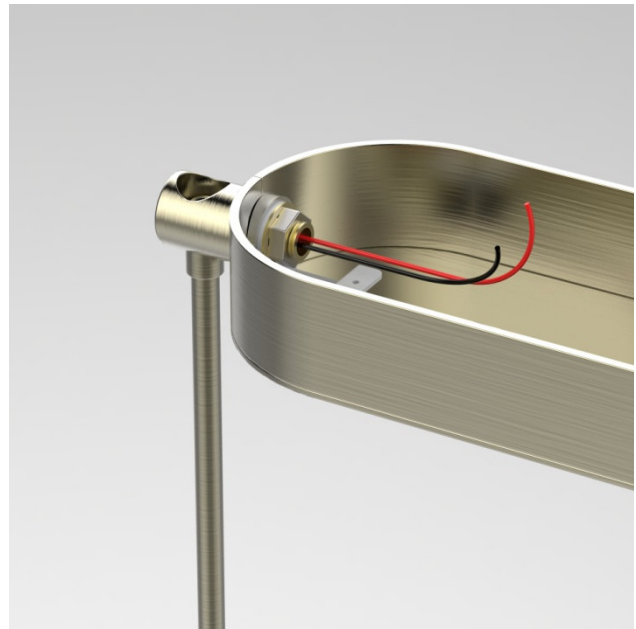

Figure 5
- Carefully feed stem wiring through couplings and into the inner canopy. (Figure 5)